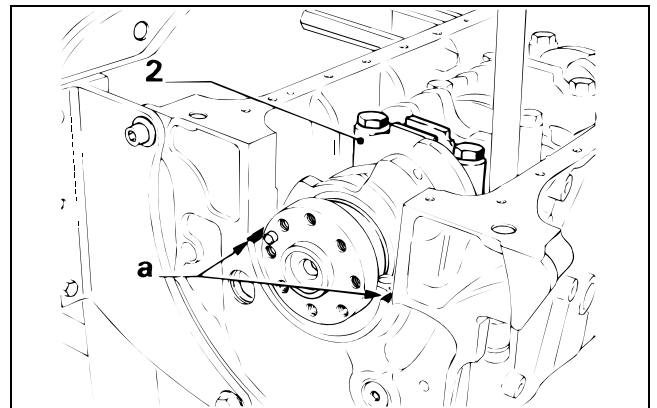

Figure 73
6. Install the no. 2 main bearing cap (Fig. 73, Item 2) with its two end float half-washers, with the anti-friction faces towards the crankshaft.
8. Apply a thin coat of Formetanch or Permatex No. 2 sealant to surface of block where bearing cap will mate (Fig. 73, Item a).